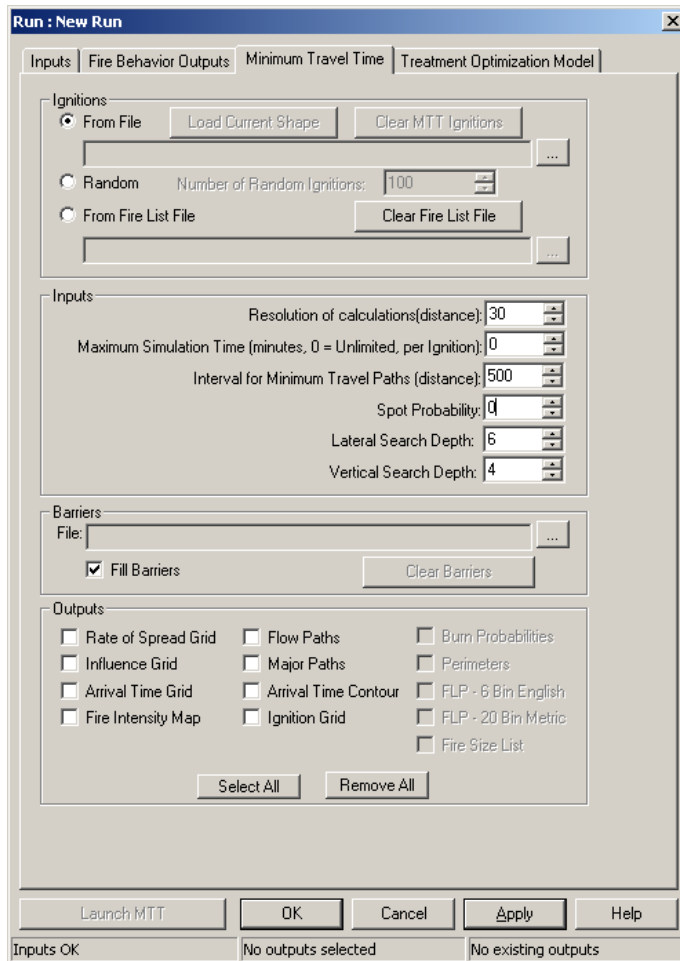

Figure 4-60—Setting the spotting probability on the MTT tab.
4) Select the **Minimum Travel Time** tab (fig. 4-60).